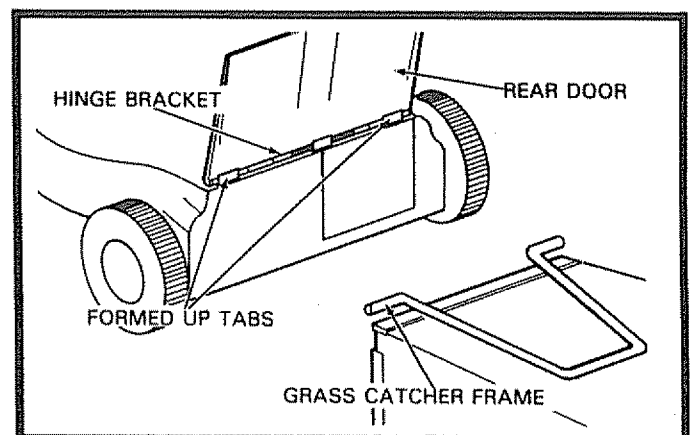

FIG. 3
- Lift the rear door on the mower housing and place the grass catcher frame onto the formed up tabs on the rear door hinge bracket (See Fig. 3).